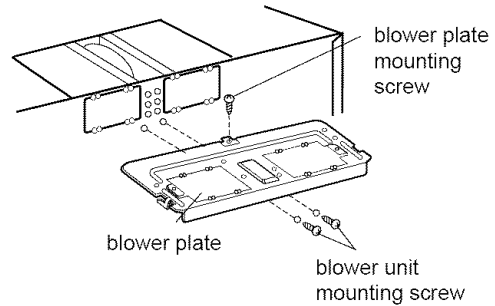

Figure 18
1. Remove two blower unit mounting screws and one blower plate screw. Remove the blower plate from cabinet. See **Figure 18**.